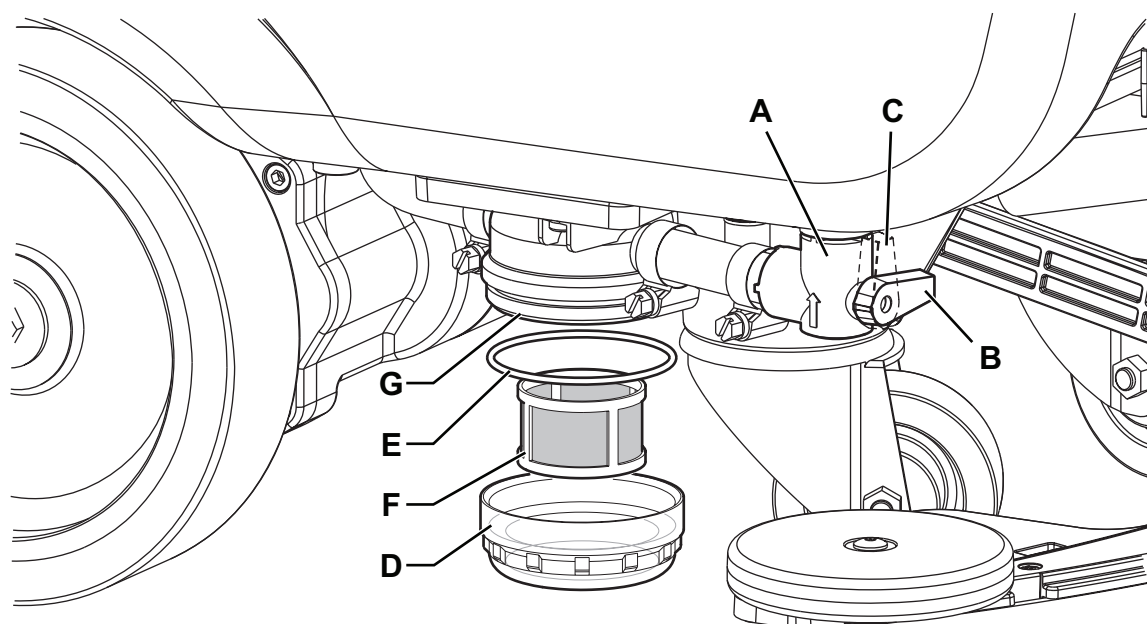

Figure 14
2. Ensure that the machine is off and the user key (51) has been removed.
3. Close the detergent solution tank valve (A, Fig. 14). The valve is closed when it is in position (B) and it is open when it is in position (C).
4. Remove the transparent cover (D) and the gasket (E), then remove the filter strainer (F). Wash and rinse them, then refit them carefully onto the filter support (G).
5. Open the valve (A).